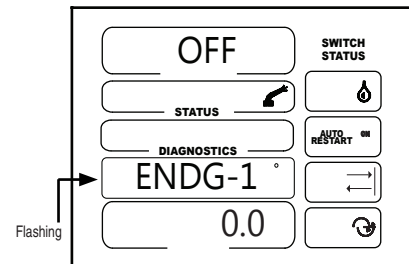

Figure 14-3
- If the sector was never programmed then the off angle should start with the same position as the on angle set in step 3. See figure 14-3.